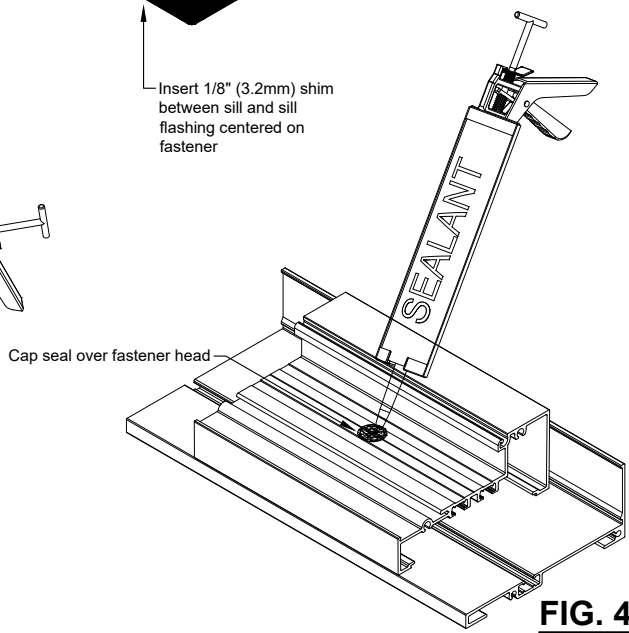

FIG. 4.
- L. Cap seal all fastener heads. See **Fig. 4**.